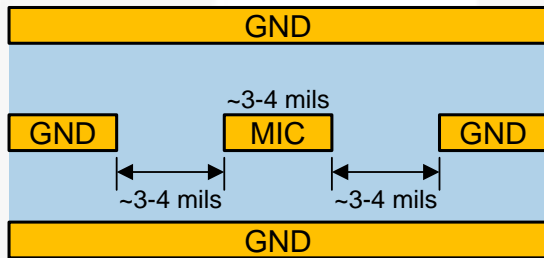

Figure 4. MIC PCB Trace as Shielded Stripline
For the MIC and ground signals between the audio jack and FSA8039, decrease the spacing between these traces to increase the inductive coupling of these signals. In effect, this creates a low-frequency band-pass filter that shunts ESD energy to ground before it reaches internal components. Where feasible, lay the MIC trace as a shielded stripline; an example is shown in Figure 4.
- Stitch ground traces to the ground plane at the device, where possible (see Figure 4).
- Flood ground, where possible (see Figure 4).